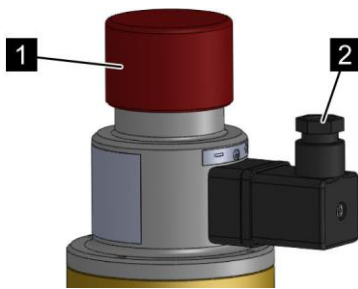

Fig. 90: Protective cap
6. ➤ If no additional pneumatic release devices will be screwed on, screw a protective cap (Fig. 90/1) onto the free thread on the top side of the electrical release device.
7. ➤ Fit the device plug onto the connection (Fig. 90/2) on the electrical release device.